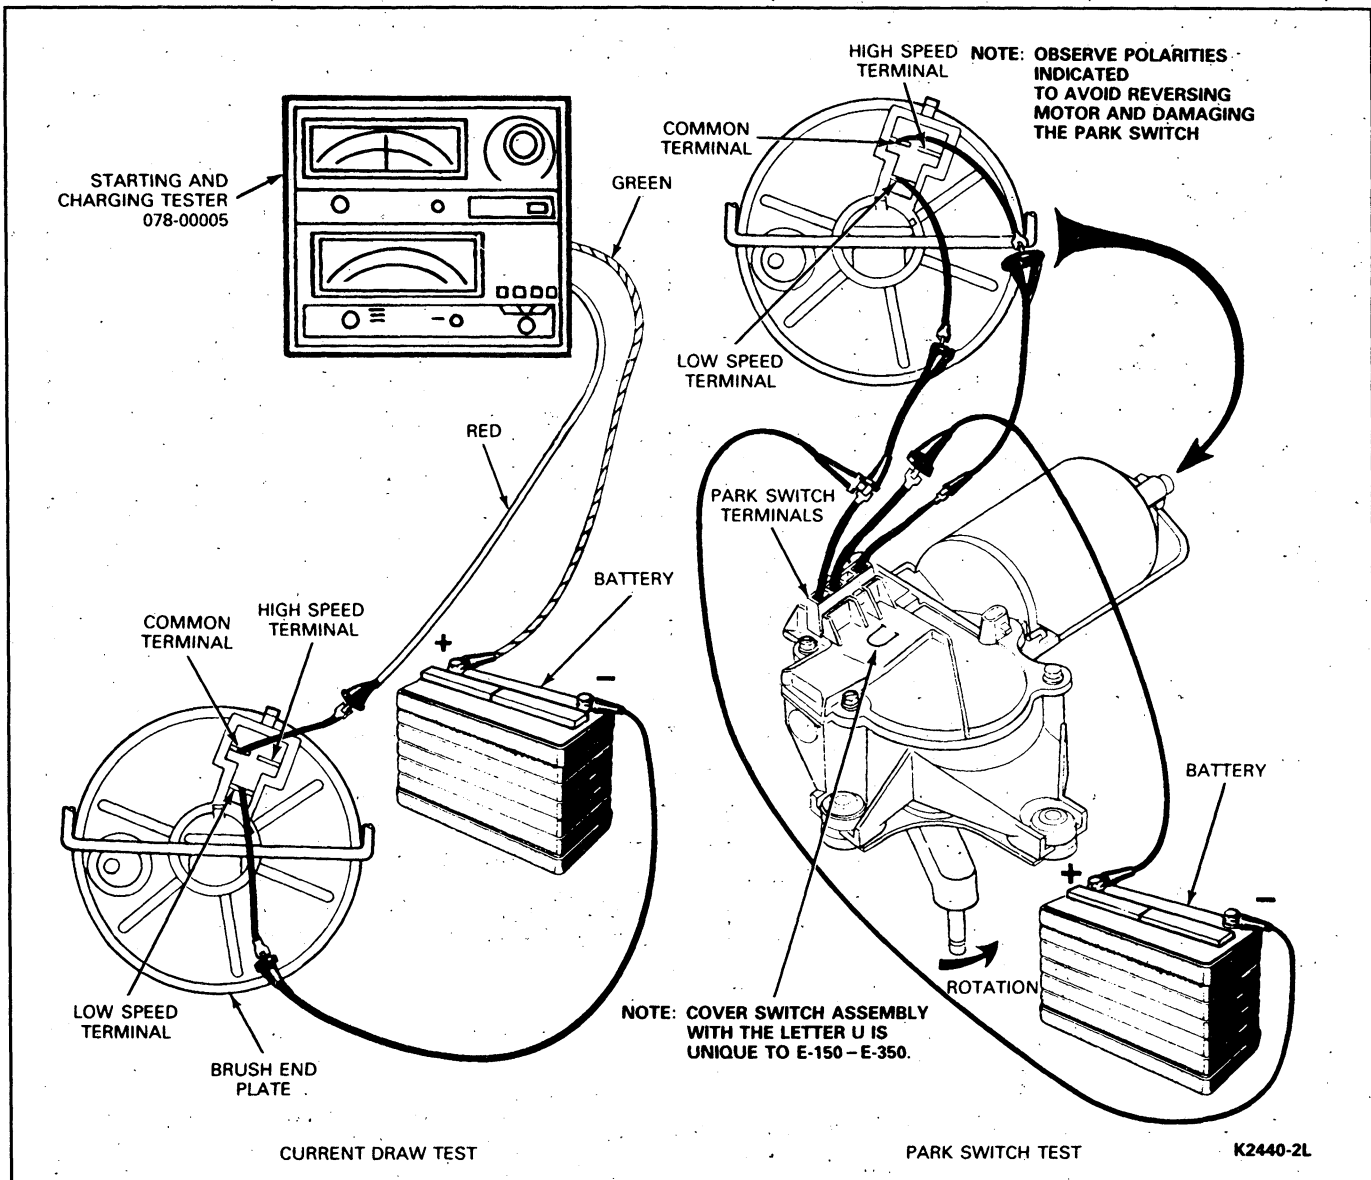

FIG. 7 Wiper Motor Tests—"B"—E-150—E-350
3. Connect the green lead from the tester to the battery positive post (Fig. 7).